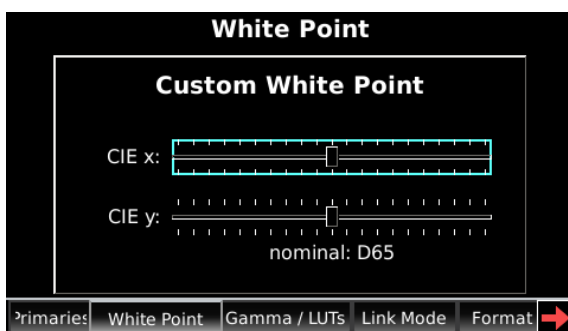

Figure 2-29 System/White Point/Custom White Point Screen
If you select **Custom**, a screen appears where you can specify the desired white point CIE x and y coordinates, as shown in Figure 2-29.
2. To configure a custom white point, use the up/down arrow keys and press **ENTER** to activate the desired slider (see Figure 2-29), then use the left/right arrow keys to change a setting, and press **ENTER** again to save. When using the arrow keys: